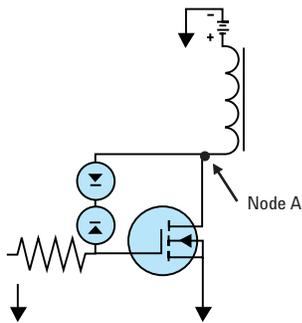
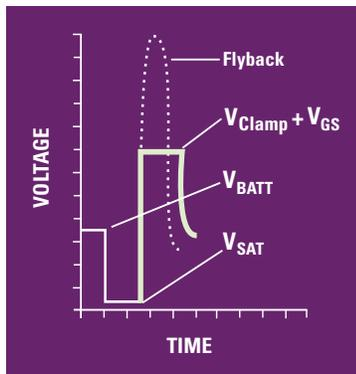

Figure 3: Typical lowside solenoid driver
Figure 4: Voltage profile of solenoid deactivation
In order to control the wheel from slipping during an ABS event, braking pressure is modulated by the control of solenoid drivers (see Figure 3). ABS/TC response abilities ultimately rest with the ECM's ability to control the state of the solenoid-driven valves. Typical measurements of interest include the saturation and flyback voltage, driver leakage current and the ECM microcontroller ADC input recapture accuracy.
Saturation voltage (see Figure 4) is important for characterizing the health of the solenoid driver electronics. Typical saturation voltage values range from 0.5–1V.
*Saturation voltage, as seen in Figure 4, is measured at the solenoid output (node A in Figure 3) just after turning on the solenoid driver. This voltage is easily measured with a DMM or by using a digitizer (ADC) and maybe followed by serial interrogation of the ECM to determine the voltage it measured.*
The inductive nature of the solenoids causes considerable voltage flyback when the solenoid is turned off (see Figure 4). If left unclamped, the flyback voltage can reach levels as high as 200 to 300 V, which must be limited to protect the solenoid driver. Typical clamp voltages are in the 40 to 60 V range.
Information on the driver leakage current verifies the health of the driver FET (see Figure 3). Excessive leakage current is indicative of possible electrostatic damage (ESD).
To measure driver leakage current, disconnect the load and measure the current flowing to the solenoid driver while it is in the “off” state at node A in Figure 3.